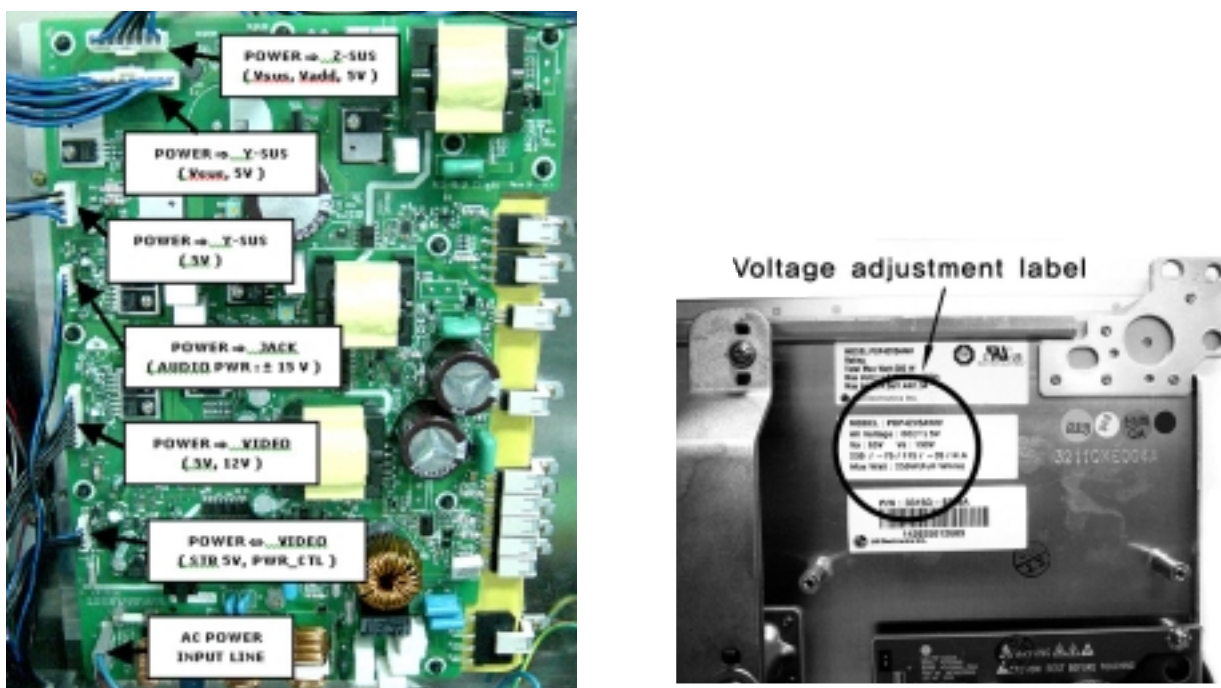

Fig. 3 Power Connection and Voltage Adjustment Label
- ◆ Optimum Adjusting Voltage : Voltage which is written in Label which is at upper right side of PDP Module. (Typical Voltage : 190 V - Fig. 3)
- ◆ Optimum Adjusting Voltage : Voltage which is written in Label which is at upper right side of PDP Module. (Typical Voltage : 65 V - Fig. 3)